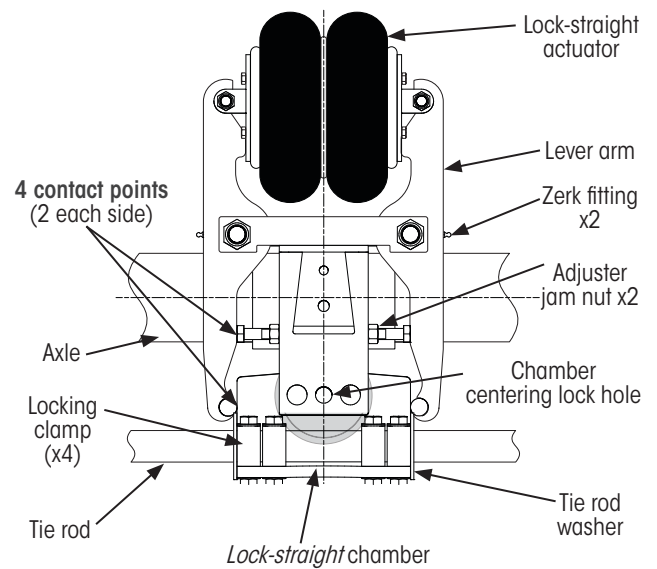

Figure 30: Self-steer axle lock-straight mechanism (bottom view)
During alignment or adjustment of the self-steer axle, the lock-straight assembly (Figure 30) is used to lock the tie rod in the center position while the wheels are checked and/or adjusted to point straight forward on the trailer, with toe.
- B. No excess **wear** at the four lever arm contact points (Figure 30) and pivot points.
- C. All four contact points (Figure 30) have **no gaps**.
**NOTE:** If properly positioned, tie rod washers (Figure 30 on page 23) should maintain wheel center position after clamps are loosened. These washers are typically tack welded in position during initial suspension installation or when replacing a tie rod assembly.